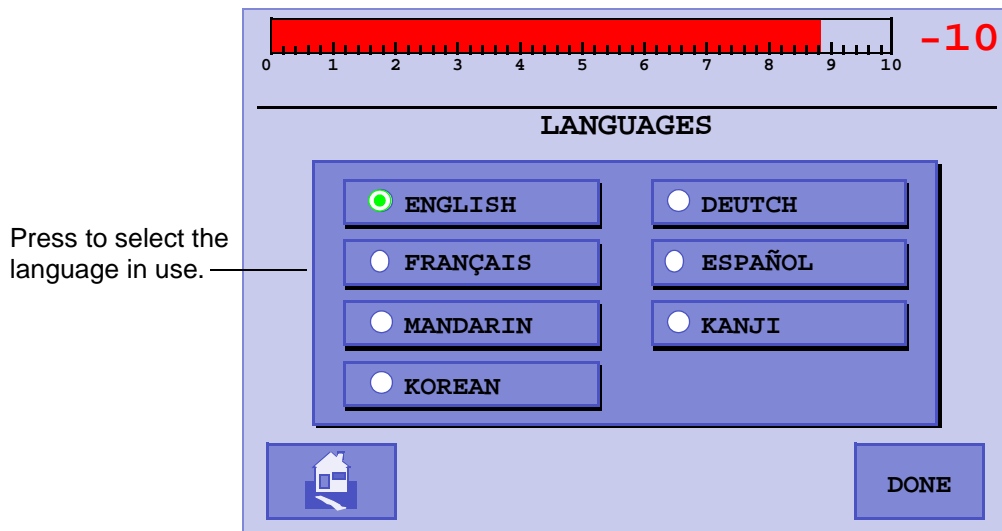

Figure 3-12 Languages
- Press **Language Set-Up** on the Set-Up screen and the Languages screen appears (Figure 3-12).